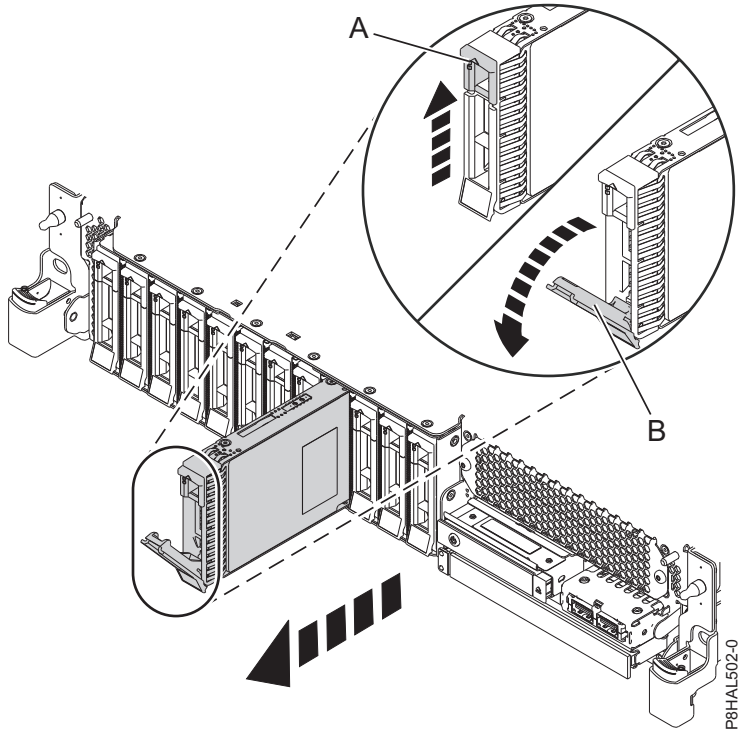
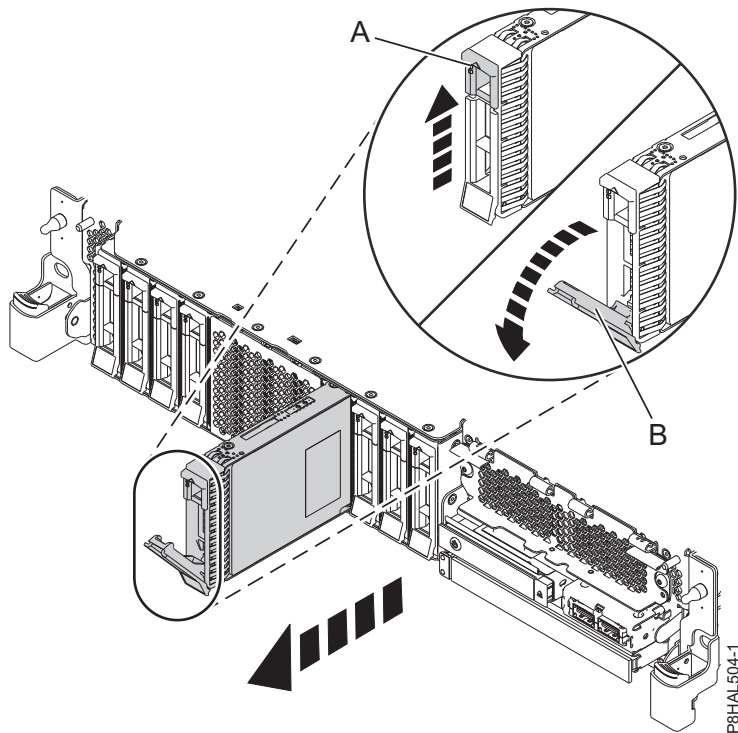

Figure 50. Removing a disk drive from a base function system
Figure 51. Removing a disk drive from an expanded function system
3. When the identify LED turns on solid, unlock the drive bay handle **(B)** by pressing the handle latch **(A)** and pulling it out toward you, as shown in Figure 50 on page 52 and Figure 51 on page 52. If the handle is not all the way out, the solid-state drive cannot slide out of the system.